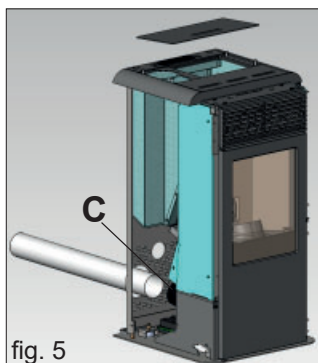

fig. 5
- Remove the screw above the top (see fig. 5 on page 208)
Connect the rear smoke output pipe (not provided) to the smoke extractor unit vent (C- fig. 5) with the band provided.
In this case it is sufficient to make the smoke output pipe (not provided) pass through the hole in the lower part of the sheet metal back (fig. 5).